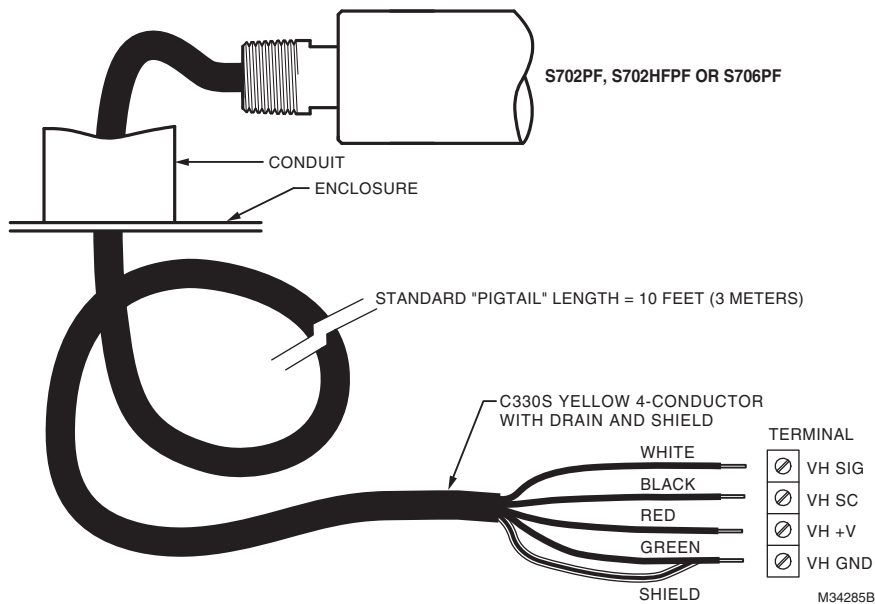
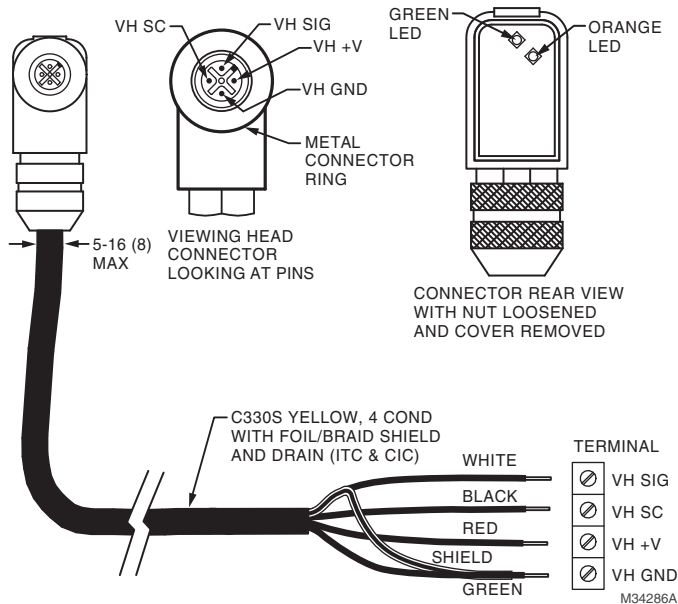

Fig. 3. Model 700 Viewing Head Cable With 1/2 in. NPT Fitting.
Fig. 4. Model 700/800 Viewing Head Cable Connections.
Connectors and cables are shown in Fig. 3, Fig. 4, and Fig. 5. Fig. 3 shows the viewing head cable with the 1/2 in. NPT pipe fitting and pigtail for use in a conduit. The PF model comes with 50 feet of Honeywell C330S cable. This cable is recommended for all new installations. It has ITC and CIC ratings for hazardous location. Figs. 4 and 5 describe the C330S cable used with the right angle field-wireable connector. Refer to "Accessories" on page 9 for part numbers.
- a. Wires are in proper locations per Fig. 4.